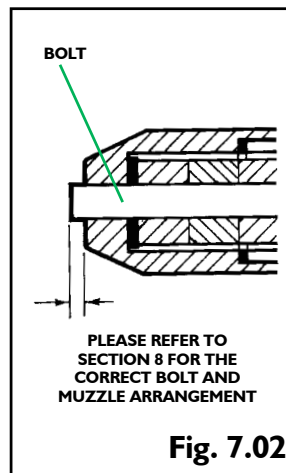

Fig. 7.02
- ▶ Visually check the bolt is fully retracted (refer to Fig. 7.02)